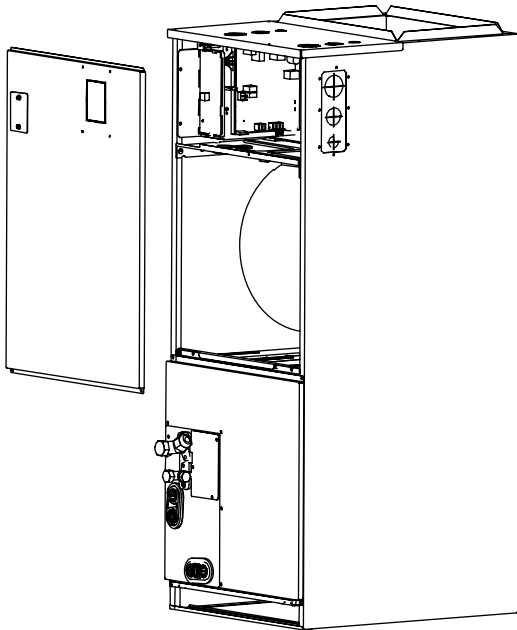

Fig. 1-1: Remove Upper Front Panel
2. Open the upper front panel. See Fig. 1-1.